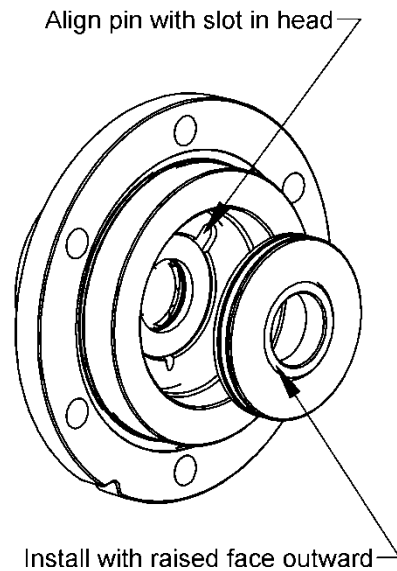

Figure 10. Stationary Seat Installation
12. Lubricate the stationary seat journal in the inboard head (20) with a light coating of grease.
13. Align stationary seat (153A) into inboard head (20) with raised face outward and location pin on opposite side aligned with the anti-rotation slot in the head. Refer to Figure 10.
15. Without installing the head O-ring (72) or rotating mechanical seal components, temporarily attach the inboard head (20) to the casing (12). Install and hand-tighten two head capscrews (21), 180 degrees apart.
16. Grease the inboard end of the shaft of the rotor and shaft assembly (13).
17. Gently slide rotor and shaft assembly (13) into the casing (12) and through the grease seals (104 & 104A) and bearing (24) in the inboard head (20).